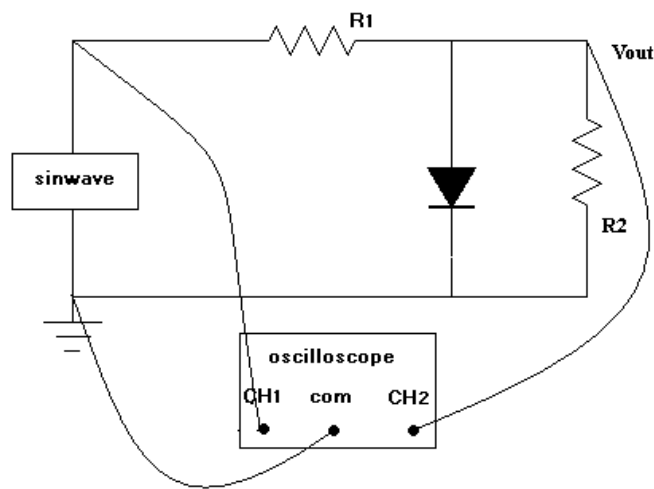

Figure 5.1
1. Connect the circuit in figure5.1.
1. Sketch the output waveform of the circuit in figure5.1
4. Sketch the output waveform of the circuit in figure5.1 if the diode polarity is inverted.